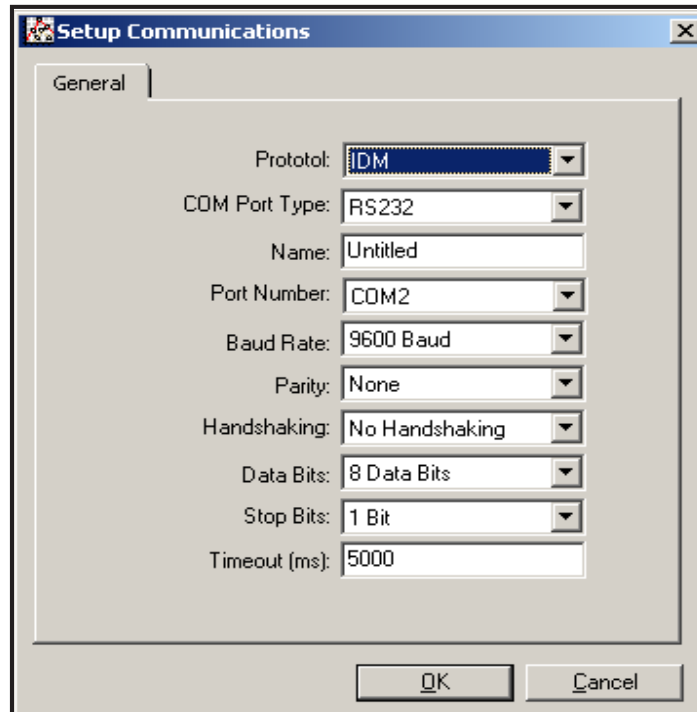

Figure 18: *Setup Communications* Screen
- Click on the “*Communications Port*” option to select it. The *Setup Communications* screen appears similar to Figure 18.